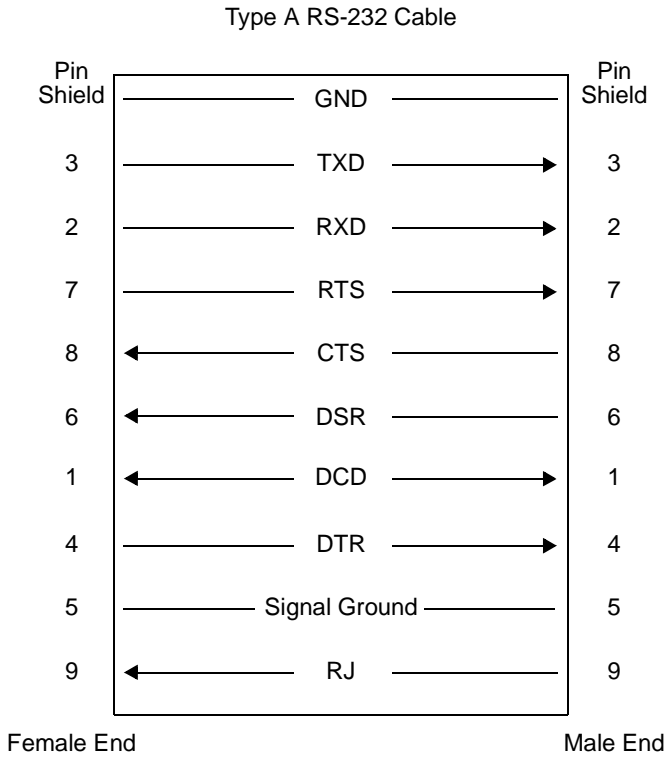

Figure 6. RS-232 Pinouts
1. Connect one end of the RS-232 cable to the serial port on the PC and the other end to the converter RS-232 port. On some PCs you may need to use a DB25-to-DB9 adapter for the serial port. Figure 6 shows the pinouts for the RS-232 cable.